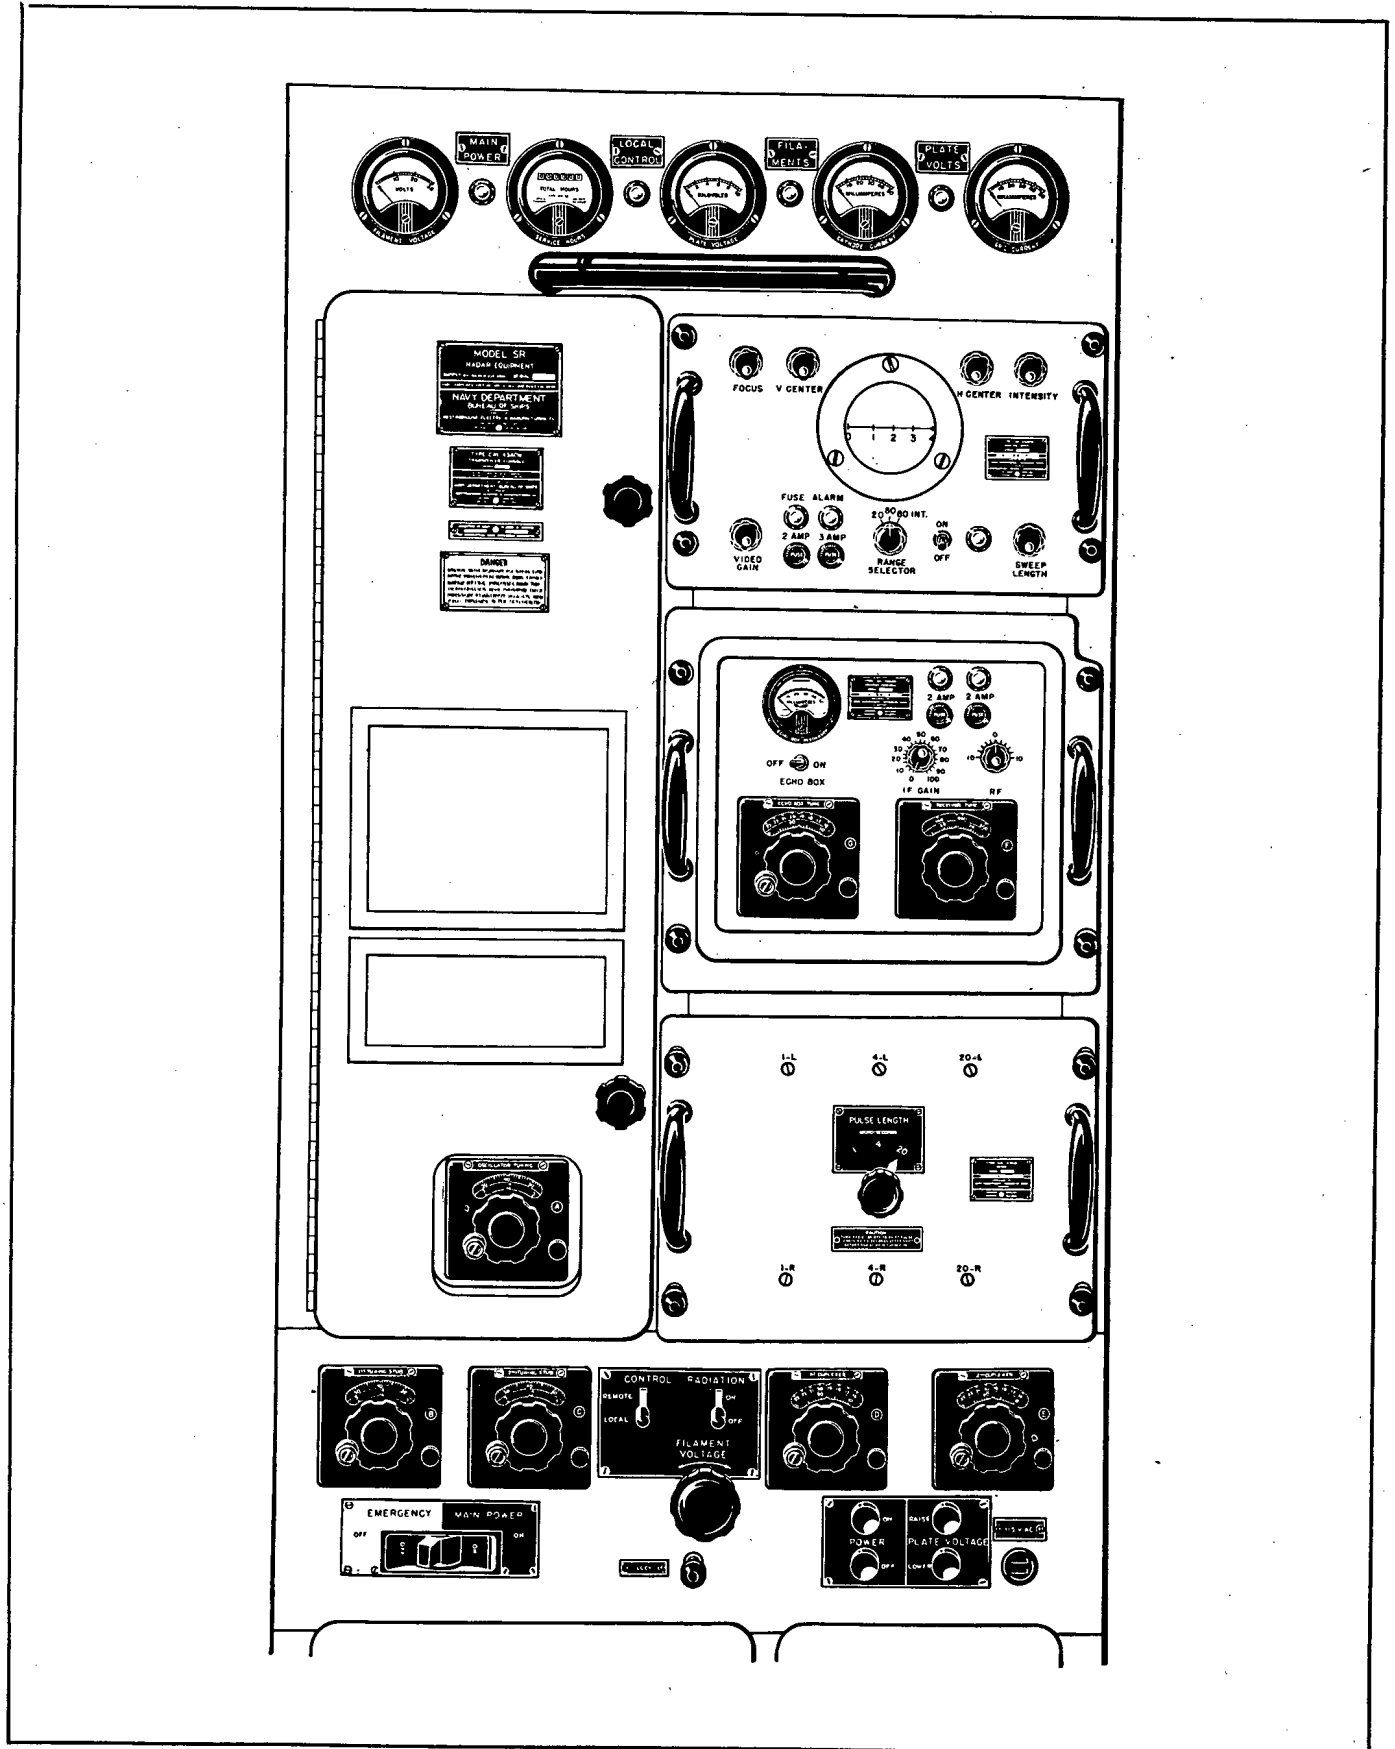
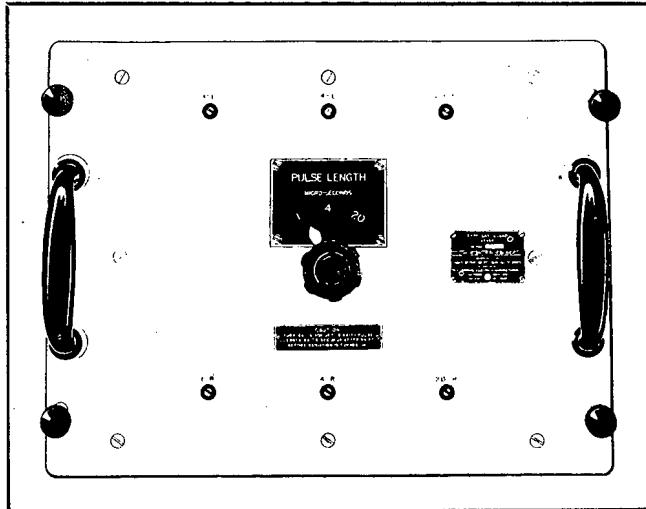

Figure 4-3. Transceiver, Operating Controls
Figure 4-4. Keyer Unit, Operating Controls
(1) Place the EMERGENCY MAIN POWER switch S-101 in its ON position. See Fig. 4-3. The MAIN POWER ON and FILAMENT ON lamps should glow. Five seconds must elapse before the POWER ON switch is operated.
(2) Place the CONTROL switch S-107 in the position desired. If the LOCAL position is used, the rest of the Transceiver power circuits are energized at the Transceiver and the steps in the remainder of this paragraph are used. If REMOTE operation is used, the rest of the Transceiver power circuits are energized at the General Control Unit in the Indicator Console. In this case use the POWER, PLATE VOLTAGE, and RADIATION switches on the General Control Unit instead of the ones on the Transceiver. When LOCAL control operation is used, the LOCAL CONTROL lamps on the Transceiver and the General Control unit are illuminated.
(3) In the unmodified SR Equipments, place the PULSE LENGTH switch S-158 on the Keyer Unit in the desired position. See Fig. 4-4. The 20 position is used on long range targets, the 4 position is used on short range targets and the 1 position is used at extremely close ranges and when better definition is desired where two or more targets are closely spaced.
(4) Adjust the FILAMENT VOLTAGE control
T-106 until the FILAMENT VOLTAGE meter M-106 indicates 10 volts. These controls are shown in Fig. 4-3.
(5) Press the POWER ON switch S-103. The PLATE VOLTS lamp should glow.
(6) Press the RAISE switch S-105, holding it in until the PLATE VOLTAGE meter M-103 indicates five kilovolts. These controls are shown in Fig. 4-3.
(1) Energize the power equipment as directed in Par. 2a of this section.
(2) Place the EMERGENCY MAIN POWER switch S-101 in its ON position. This control is on the Transceiver as shown in Fig. 4-3. The MAIN POWER ON and FILAMENT ON lamps should glow.
(3) Place the CONTROL switch S-107 shown in Fig. 4-3, in the position desired. See Par. 2b(2) of this section.
(4) Adjust the FILAMENT VOLTAGE control T-106 until the FILAMENT VOLTAGE meter indicates 10 volts. These controls are shown in Fig. 4-3.
(5) Five minutes must elapse between the performance of step (2) and the operation of the POWER ON switch. After this time has elapsed, the time delay relay in the Modulator closes its contacts and the POWER ON switch S-103 may be pressed. The PLATE VOLTS lamp I-104 should glow. These controls are shown in Fig. 4-3.